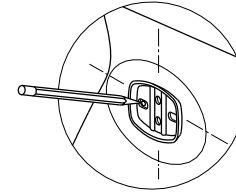

Fig. 2
- Step 3. Locate mounting plate in the center of outline. Mark location of the mounting screw (Fig.2) and drill holes at the marked location.